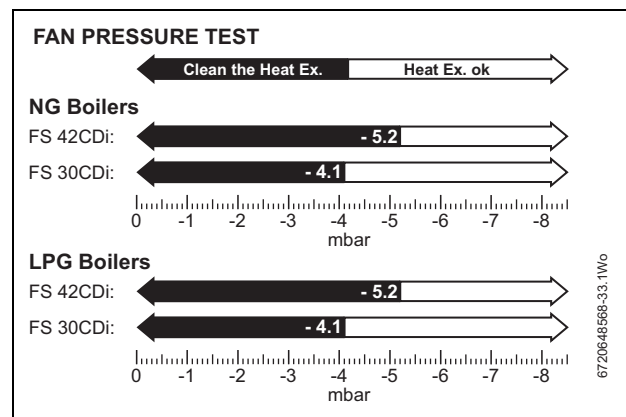

Fig. 43 Fan control pressure readings
- ▶ The pressure will read negative, refer to the chart in figure 43 below.